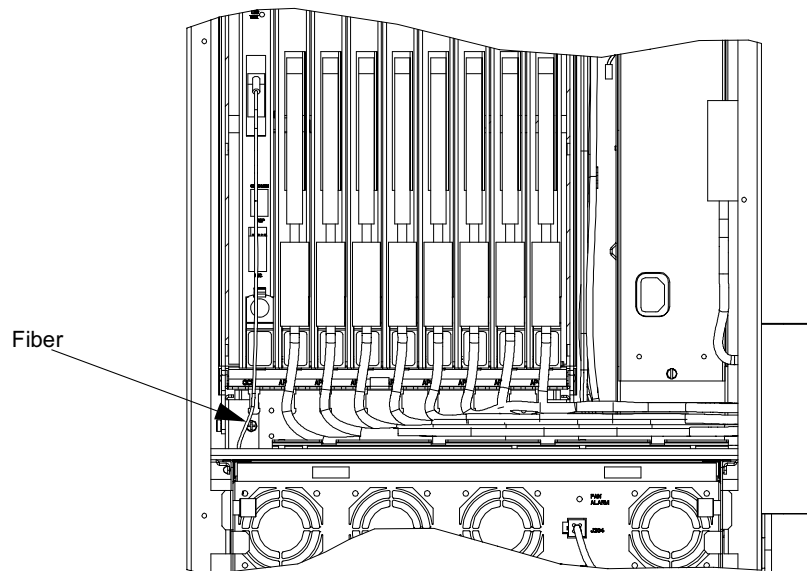

Figure 5-7 Cable routing below the ONU shelf
- Step 10 Carefully push each T/R cable to the bottom and add cable ties as needed (see Figure 5-7).